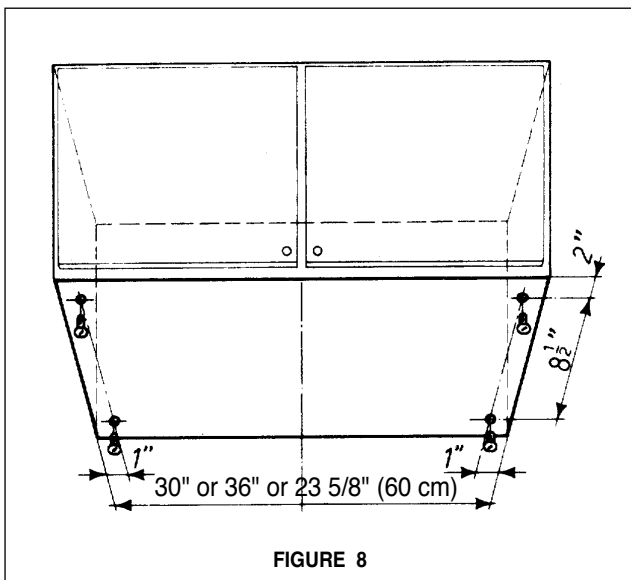

FIGURE 8
3. The Agio attaches to the cabinet by four black screws. Mark the cabinet and insert the screws into the underside of the cabinet as shown in **FIGURE 8**. Do not tighten the screws.